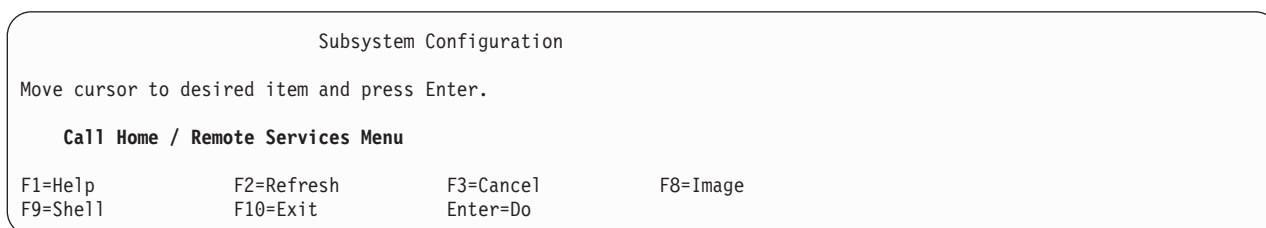

Figure 2-129. Subsystem Configuration Menu – Call Home / Remote Services Menu
- At Figure 2-129, select **Call Home / Remote Services Menu**, and press **Enter**.
Attention: Select the illustrated line item only at **Figure 2-129**. No other menu display items are applicable for this process.